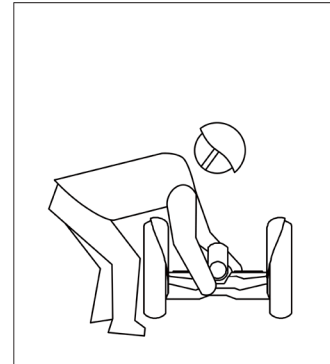

Figure 43: Lifting Alone
1. Make sure the hex wrench slides all the way to the bottom of the hex socket [see **Figure 43**].